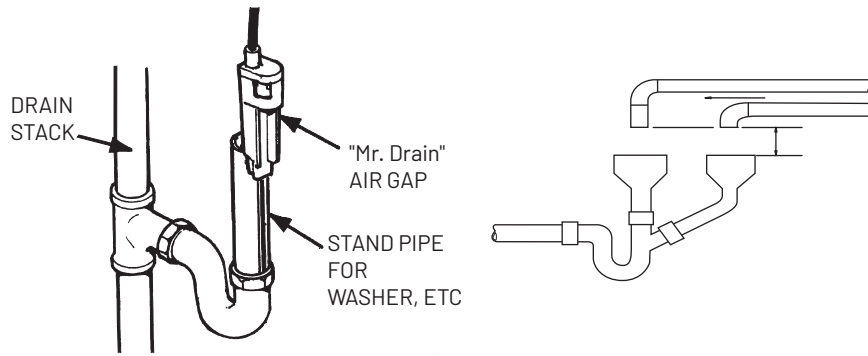

Figure 6
- The air gap should be installed between the end of the drain line and the drain to prevent possible back siphoning (see figure 6).
**The air gap must be open and free of obstructions to achieve a proper backwash rate (see figure 6).**